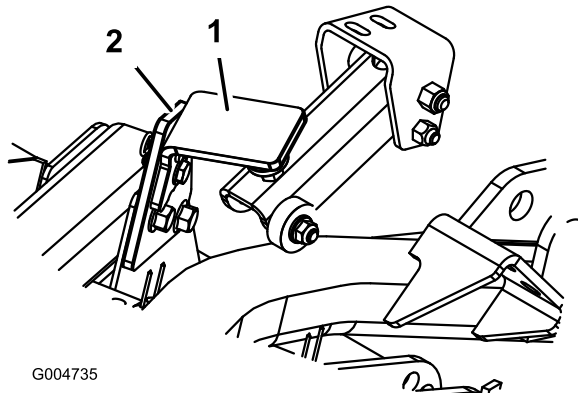

Figure 83
2. Remove the hairpin cotter and clevis pin securing the deck transport latch to the latch plate (Figure 83). Pivot latch toward rear of deck.